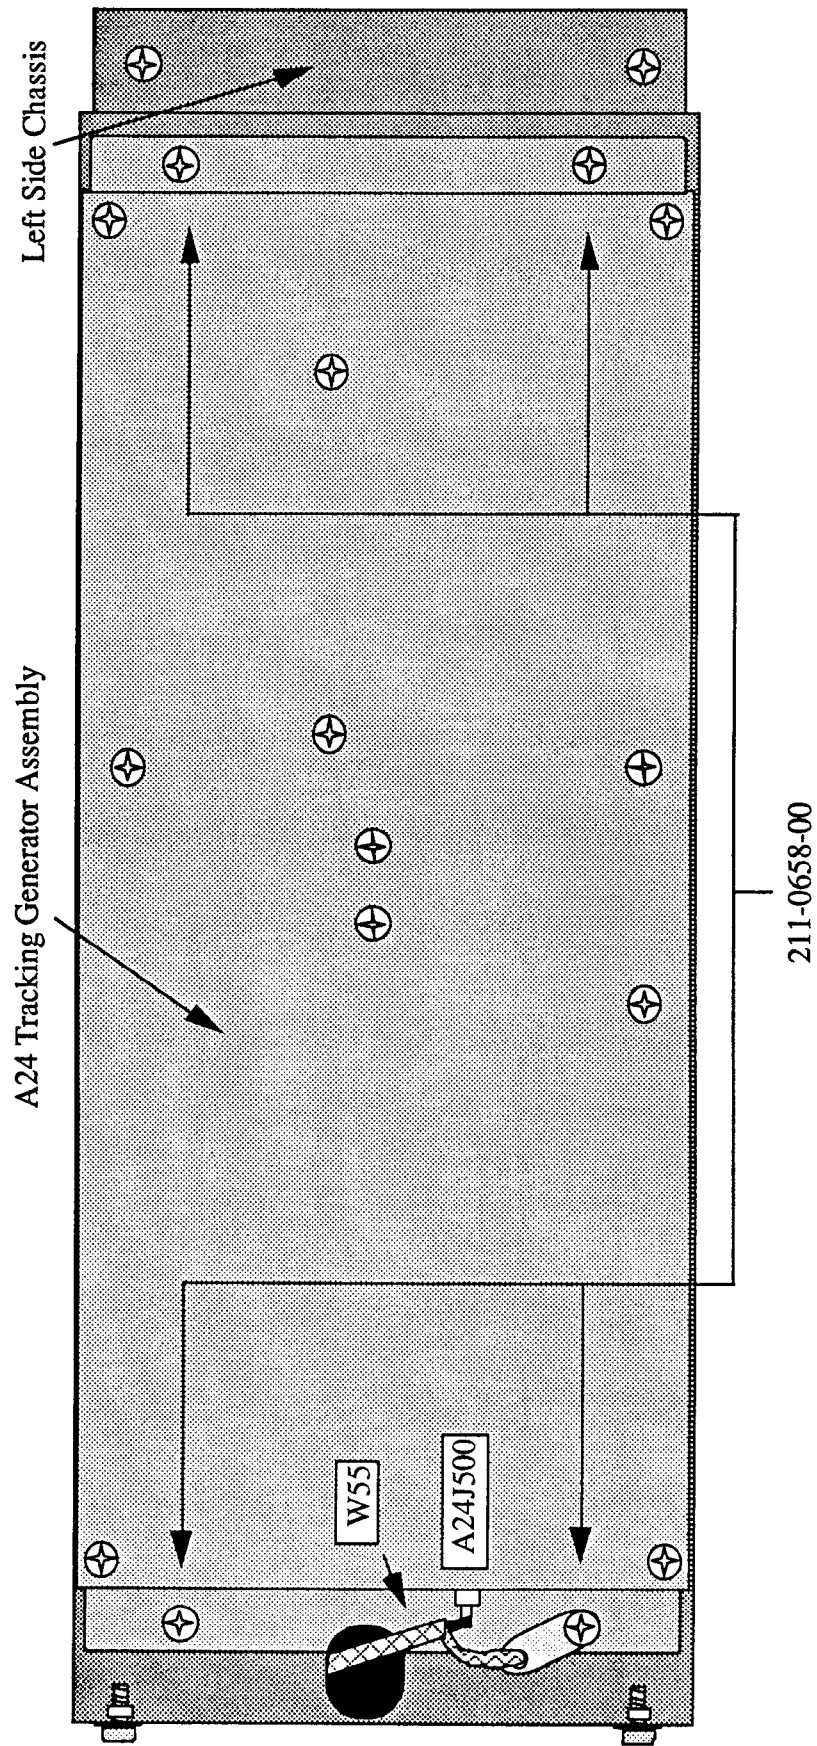

Figure 6.
- (e) Install the Tracking Generator module (A24) into the new left side chassis. See Figure 6.
- (s) Install cable W55, 174-~~1238~~1811-00 as shown in Figures 6 and 7. Connect the end without the ferrite bead to A10J185 on the microprocessor board. Connect the end with the ferrite bead to connector A24J500 on the Tracking Generator.